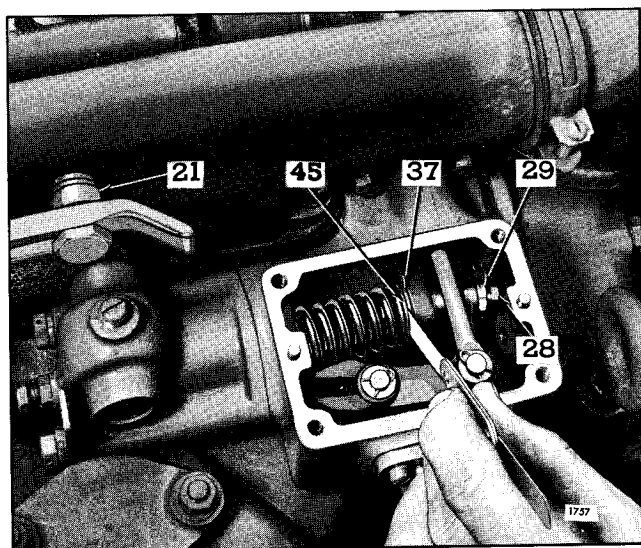

Fig. 1 - Adjusting Governor Gap
2. Place the speed control lever (21), Fig. 1, in the FULL FUEL position.
3. Insert a .006" feeler gage between the spring plunger (45) and the plunger guide (37). If required, loosen the lock nut (29) and turn the adjusting screw in or out until a slight drag is noted on the feeler gage.